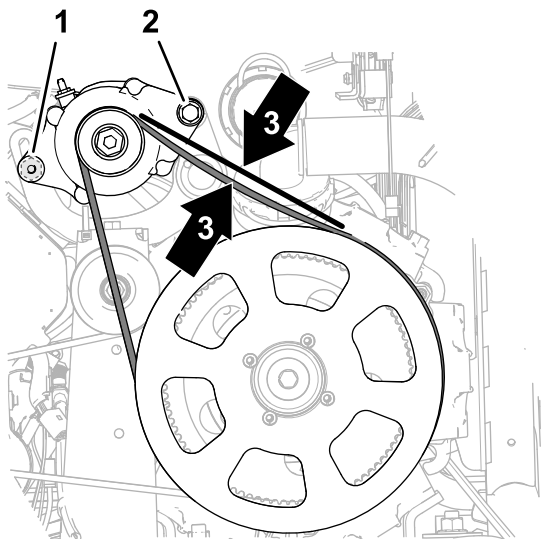

Figure 186
- Rotate the alternator (Figure 186) up to increase tension on the belt until you measure belt 9.5 mm (3/8 inch) of belt deflection when you apply 4.5 kg (10 lb) halfway between the alternator pulley and drive pulley 279 mm (11 inch).